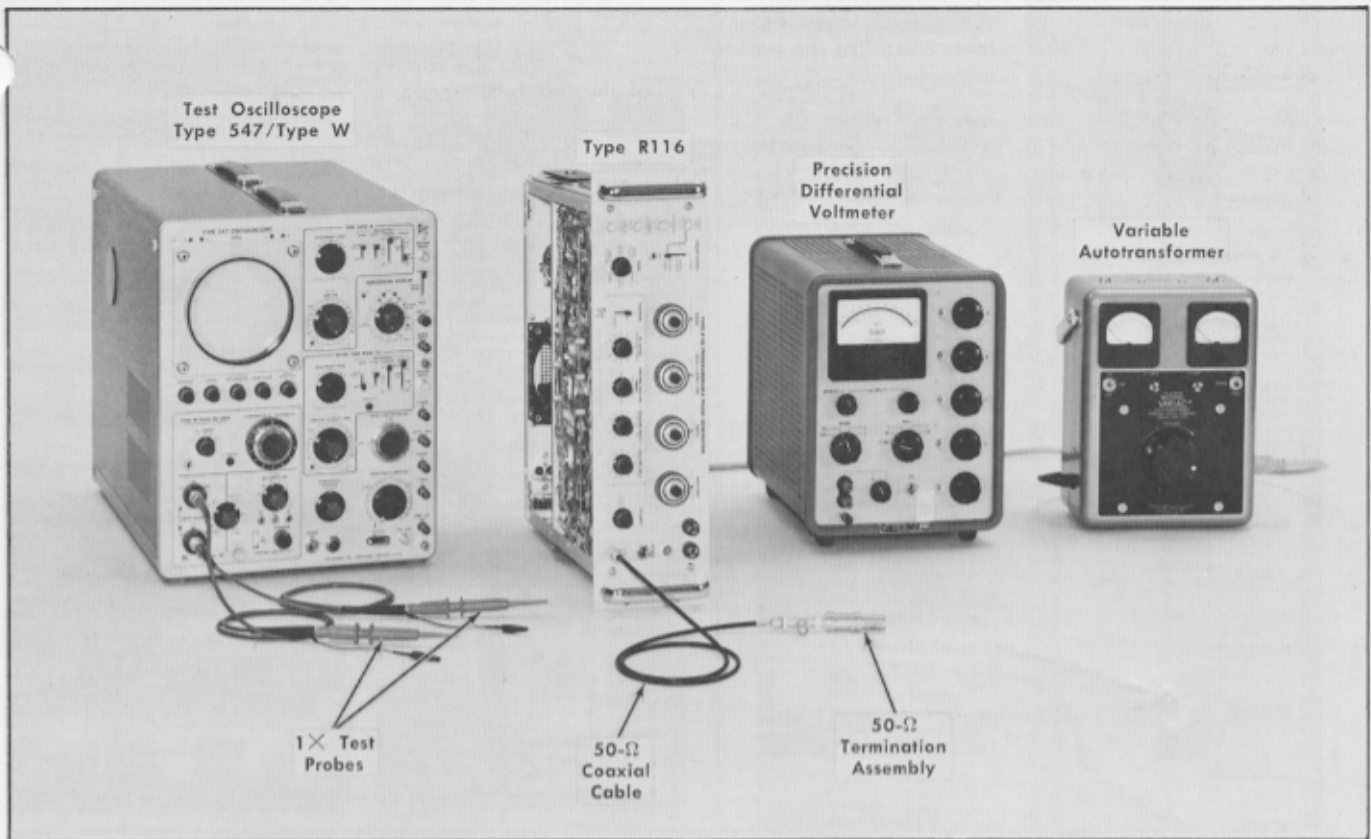

Fig. 7-4. Initial test equipment setup for calibration steps 1 through 3.
- a. Test equipment setup is shown in Fig. 7-4.